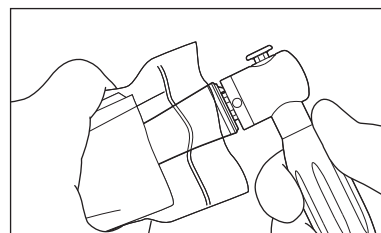

Fig. 10
- (4) Insert the head of the handpiece into the Spray Mist Absorber. (Fig. 10)
- (5) Hold the handpiece and the Spray Mist Absorber firmly and press the Spray Button to spray until the solvent appears clear.
- (6) Turn the ON/OFF Valve lever to the OFF position once when the handpiece is lubricated.